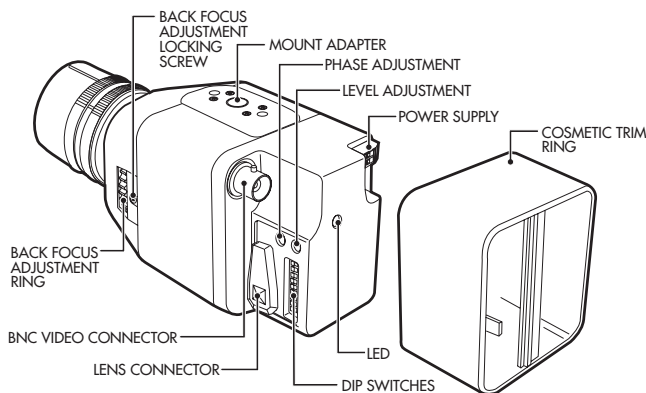

Figure 1. Camera Layout
2. Remove the cosmetic trim ring from the back of the camera (refer to Figure 1). Set the lens mode selector switch on the side of the camera to AIV (auto iris video drive lens) or AID (auto iris DC drive lens). Refer to the *Switch Settings* section. Switch setting is determined by the type of lens used.
The MC3651H-2 camera is designed to operate from a 12 VDC or 24 VAC power supply. The power supply connections are shown in Figure 1. The LED on the back panel of the camera indicates that power is connected. Use only a Class 2 isolated power supply. Power consumption is less than five watts.
1. Remove the cosmetic trim ring from the camera (refer to Figure 1). Thread cabling through the rear cover.
Set the lens mode selector switch to AID. Switch the ESC ON. Use an appropriate screwdriver to turn the lens level potentiometer (refer to Figure 1) fully clockwise. Next, slowly adjust the potentiometer counter-clockwise until the optimum picture is obtained (video output level of 1V peak-to-peak). To focus, fully open the iris by covering the lens with a suitable neutral density (ND*) filter. Select the scene to be viewed. If the viewed scene is 6.5 feet (2 m) away or farther, set the lens focus to infinity (far). Use the back focus adjustment ring (refer to the *Back Focus Adjustment* section) and focus on the selected scene. Remove the ND filter and set the lens focus as required.